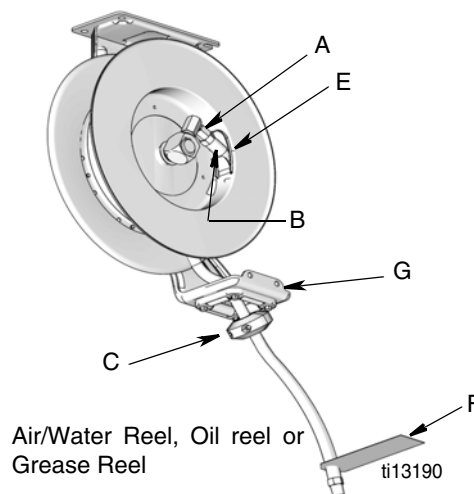

FIG. 12
- Stop reel where there is access to hose swivel (A) (FIG. 12) and where reel is securely latched.
7. Run the end of the hose (B) through the hose guide (G) and then the hole (E) in reel (FIG. 12).